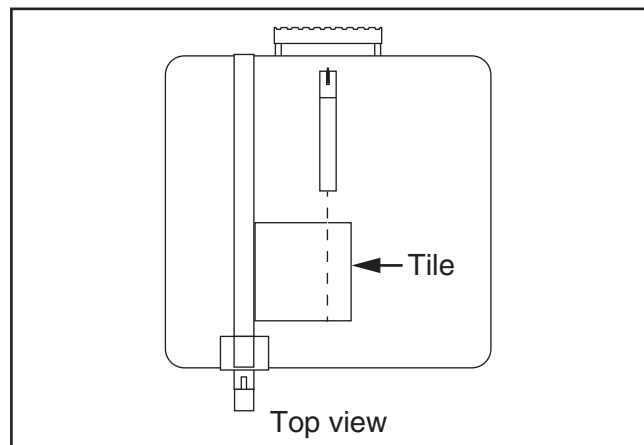

Figure 22. Tile ready for rip cut.
7. Ensure blade is wet, then push tile through cut (see **Figure 22**).